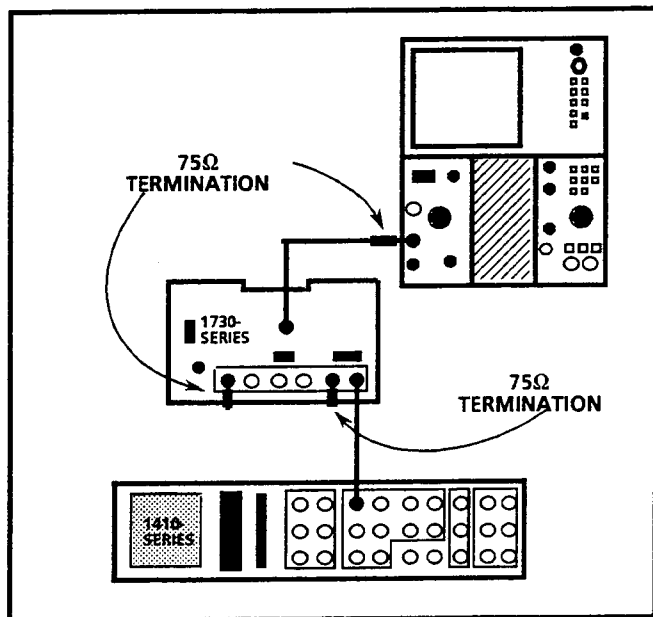

Fig. 5-7. Using the test oscilloscope to check 1730-Series PIX MON OUT.
- c. Connect a coaxial cable from the PIX MON OUT to the test oscilloscope. Use an in-line terminator at the test oscilloscope. Connect the Composite Sync from the television test signal generator to the 1730-Series EXT REF and terminate remaining side of the loop-through input. See Fig. 5-7.